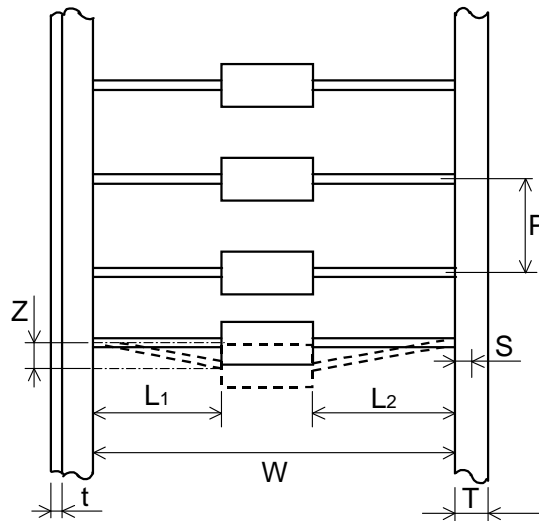

Figure-4
9.2 Taping design and dimensions shall be in accordance with Figure-4 and Table-6.